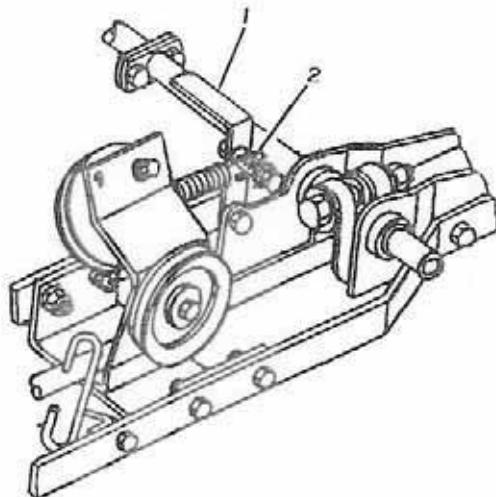

FIGURE 2
Remove the spring tension arm (fig. 2, item 1) and the spring sleeve holder (fig. 2, item 2).